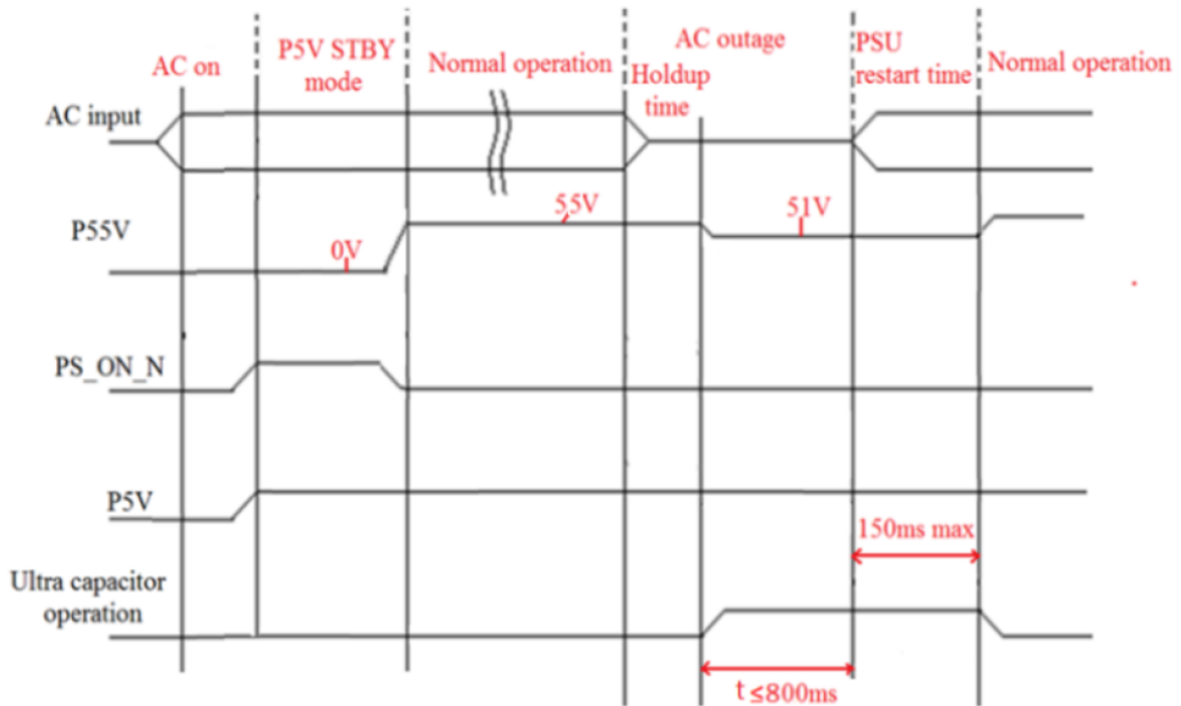

Fig 18 : Fast restart timings – outages shorter than 800ms
- For outages up to 800ms, maximum restart time is 150ms (see Figure 18).